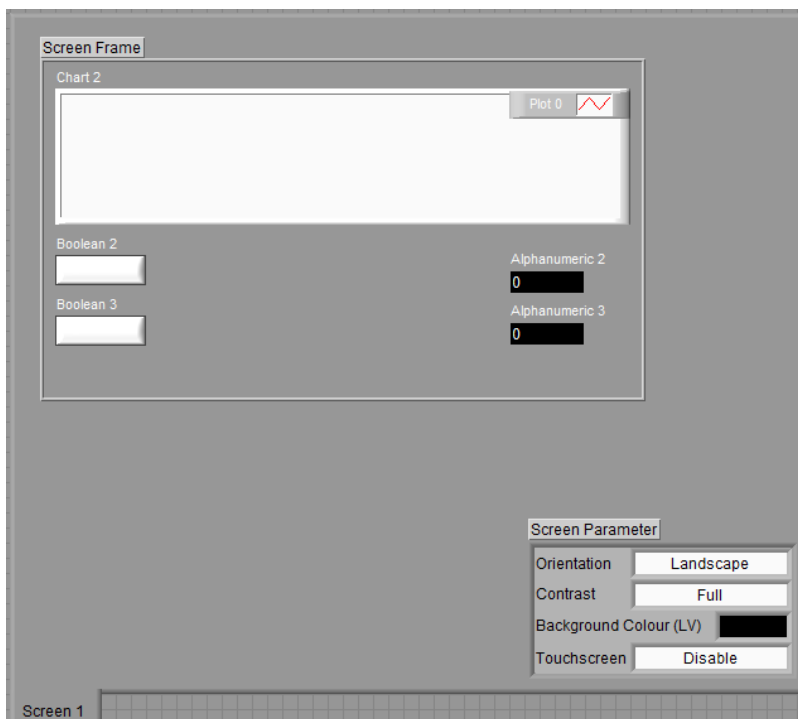

Fig. 5: Configuration-VI – Demo screen layout
- Place a chart, booleans and alphanumeric objects from the *Objects Palette* inside the the *Screen Frame*: copy the objects by dragging and dropping while the <CTRL-key> is pressed down. The final screen tab should look like shown in Fig. 5.